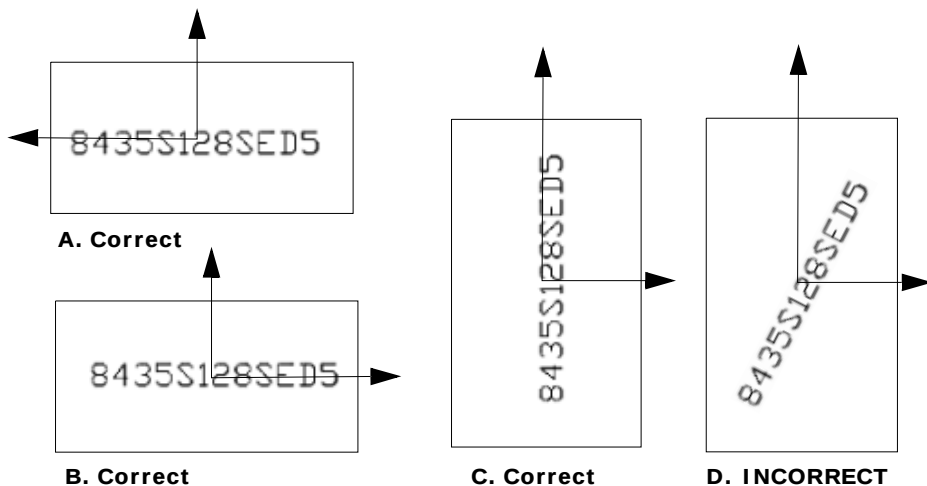

Figure 432 Correct Positioning of OCR Fixed Font Tool
- The Rectangle must be positioned so that its axes are orthogonal to the character string. Figure 432 shows examples of correct positioning (A, B and C) and incorrect positioning (D). Depending on the configuration of the tool, it can be possible to decode